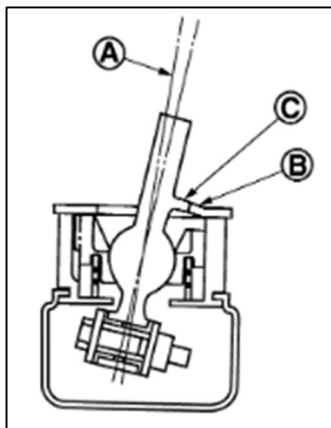

Figure 27
- Move the shifter guide plate (B) against the shift selector tab (C) shown in Figure 27